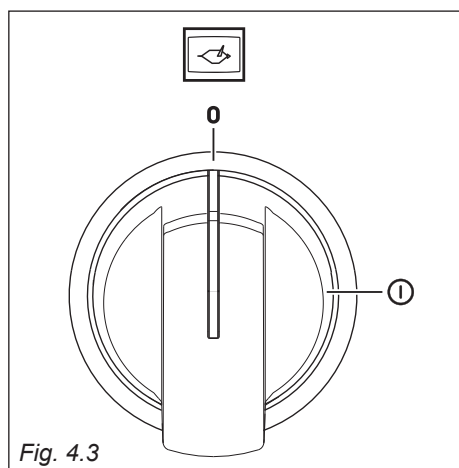

Fig. 4.3
The rotisserie motor is operated by a switch knob (fig. 4.3 - ① position).